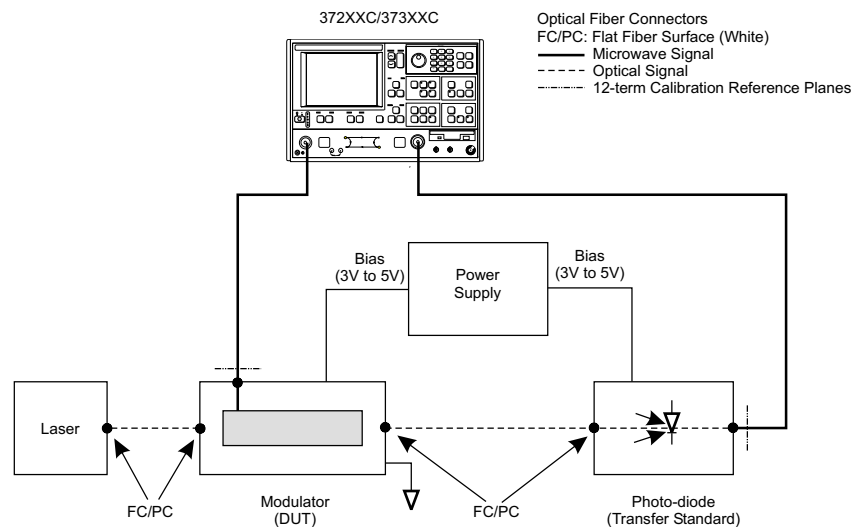

Figure 8-32. E/O Measurement Setup
Optical modulators modulate digital data signals over a light wave carrier and send it over fiber optic networks. Since a VNA is only capable of generating and measuring electrical signals, a laser source is required to provide optical input to the modulator DUT and a photo-diode/photo-receiver is required to convert the modulator output back to an electrical signal that can be measured by the VNA. The MN4765A (65 GHz characterized photo-diode) is used with the following procedure. The equipment set up for an E/O measurement is shown in Figure 8-32, below.
- Step 1.** Set-up the measurement as shown in Figure 8-32.